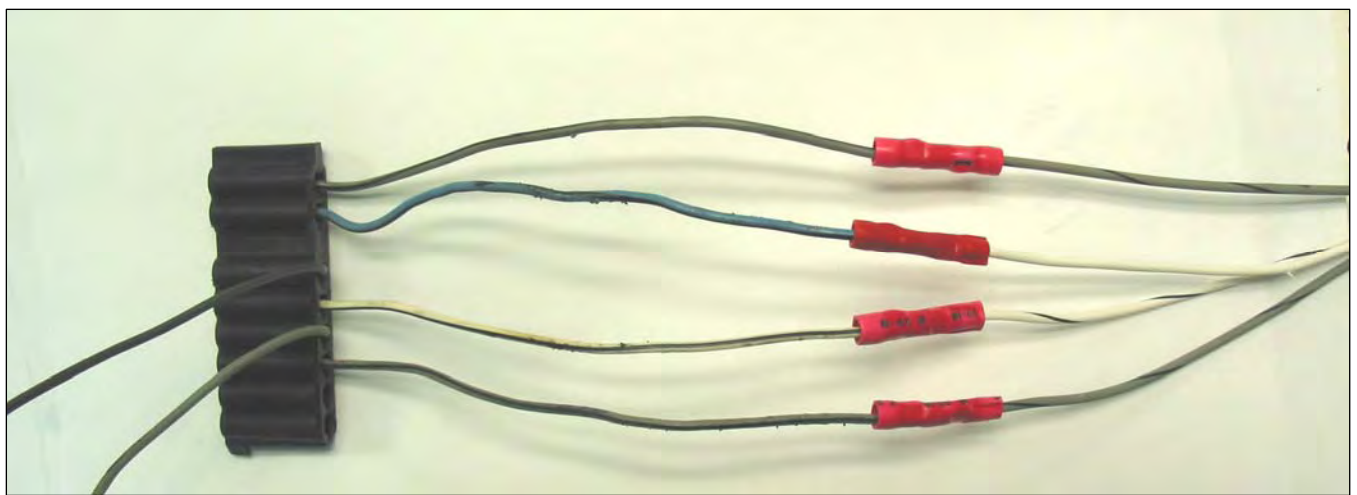

Figure 7.5.4 *Left Column Connector*
- 7.5.4** Begin by splicing the LEFT COLUMN CONN. wires to the connector that goes to the Indicator Light Circuit Board to the left of the steering column. The factory connector will contain the following wires: *gray/black, lt.blue/black, brown/lt.blue, white/black, gray, & gray/black.* Connect the Painless wires to the factory wires as shown in **Diagram 1.** Also see **Figure 7.5.4.**